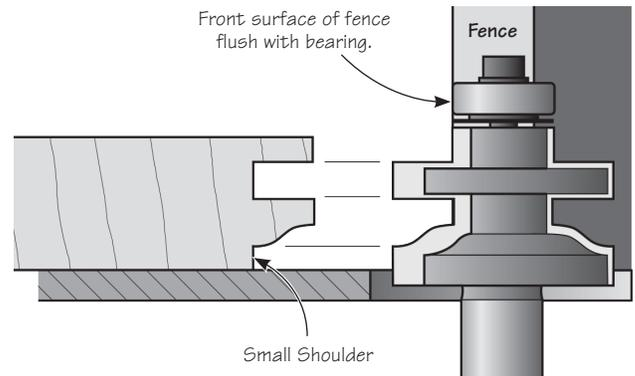

Figure 2: Set-up for sticking cut.
2. Install the sticking bit in a table-mounted router and adjust the height so that a small shoulder will be cut on the inner face of the frame pieces (see Figure 2). Set the router table fence flush with the pilot bearing. Rout the inner side of all the frame pieces (stiles and rails) and both long edges of the mullions and cross-rails.